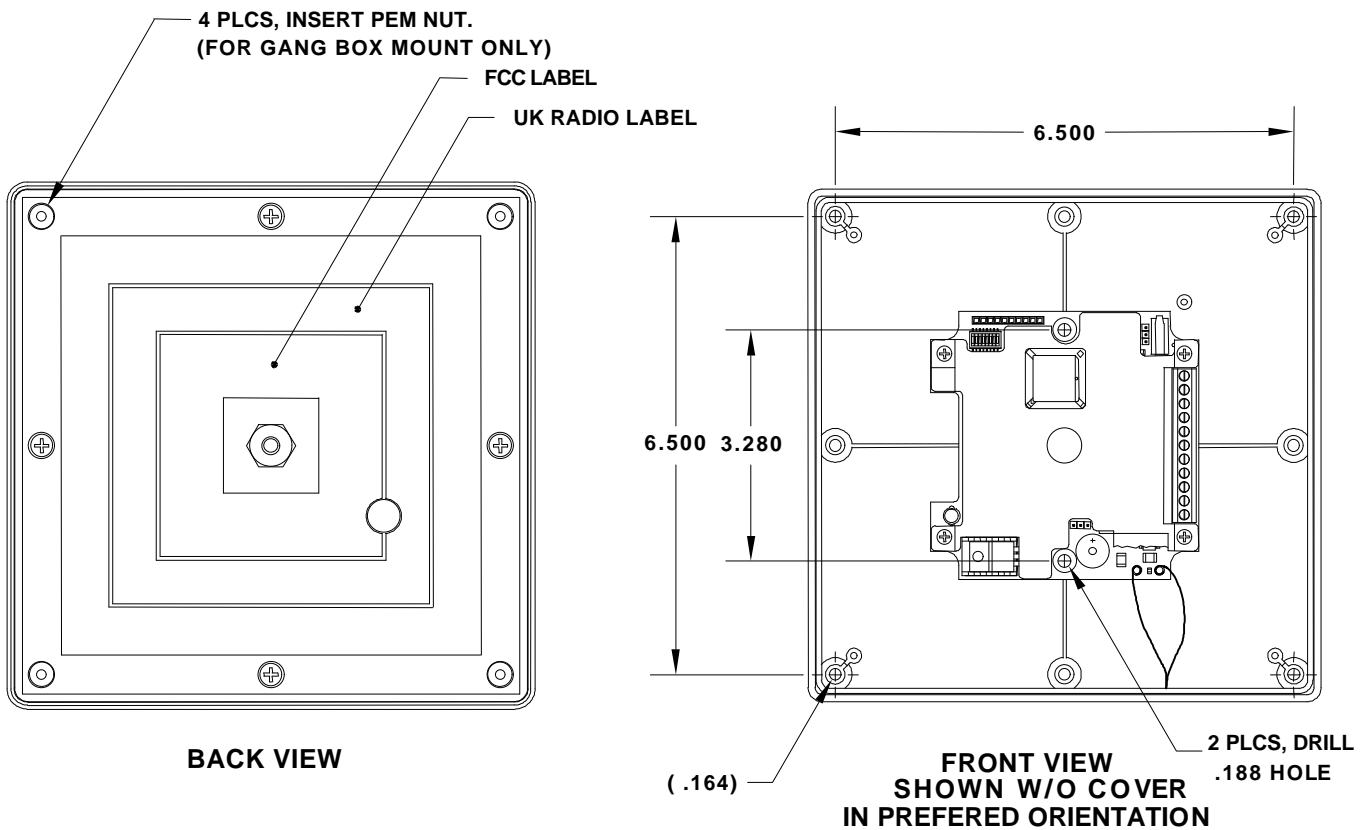

FIGURE 5
- Drill a  $\varnothing.188$  hole in the 2 locations shown in figure 5.